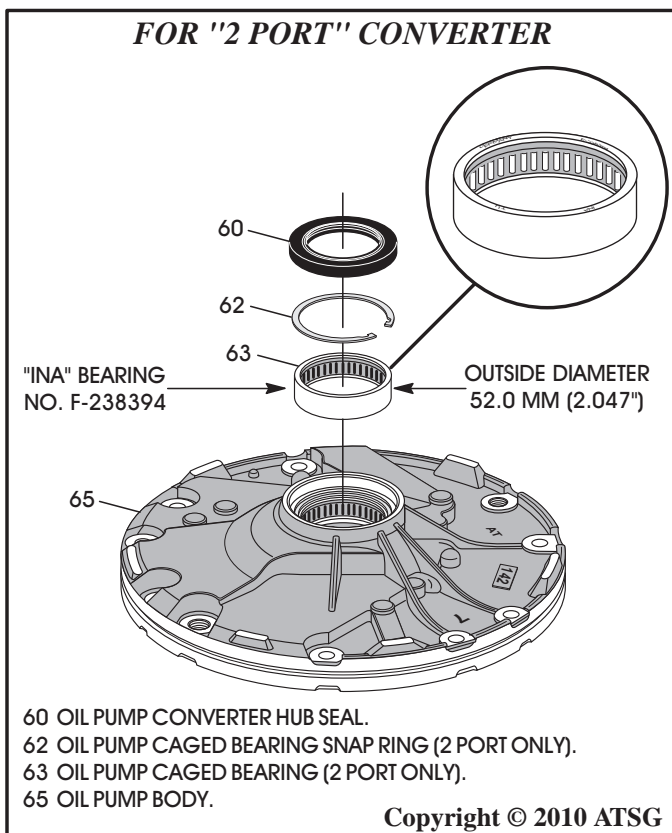

Figure 156
6. Install new caged needle bearing as needed with the numbers on bearing *facing up*, as shown in Figure 156 (2-Port models only). **Note: Bearing is not available from OEM, but may be available at local bearing house under INA number F-238394.**
8. Install new converter hub seal into pump body, as shown in Figure 156 and/or 157 using the proper seal driver.